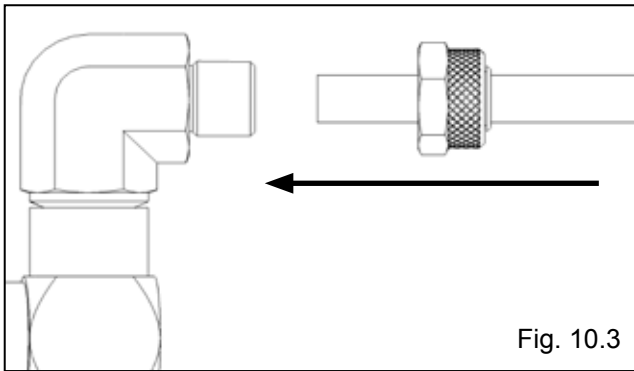

Fig. 10.3
2. Remove the captive nut on the Compression Fitting. Insert the Plastic Air line through the alignment sleeve and into the end of the fitting until it bottoms out. Then tighten the nut on the fitting. (See Fig 10.3)